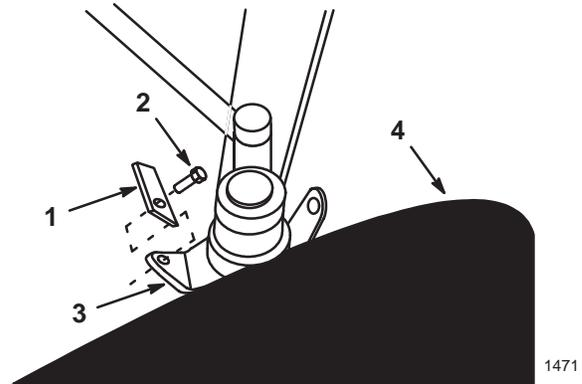

Figure 16
10. Remove the steering spindle stops, from tabs on front wheel spindles, to allow for tighter turning radius (Fig. 16).